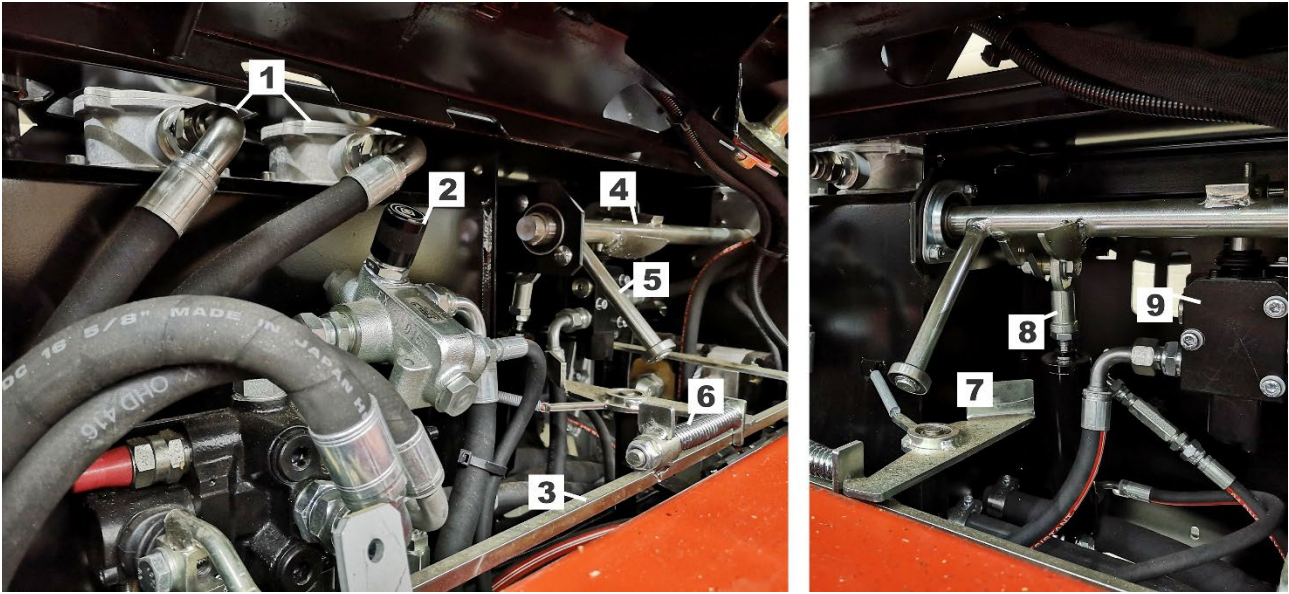

Figure 23
- ❑ As necessary, the pressing force of the clamp can be increased via the lever B, Fig. 23.